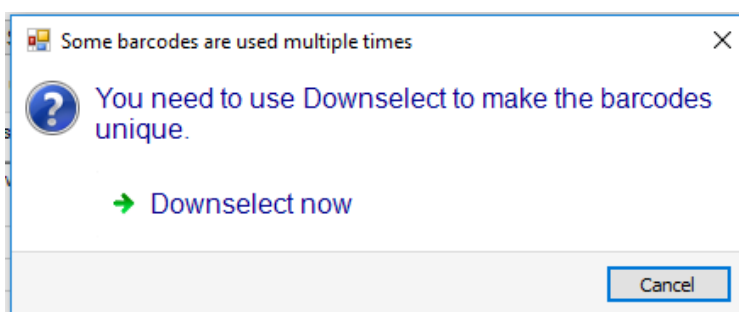

Figure 29. Downselect prompt.
7. When prompted, click **Yes** to save results. You will then be prompted to downselect the number of wells (Figure 29, below).